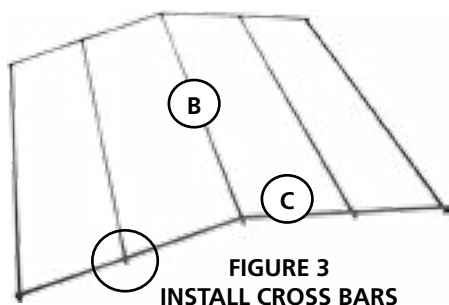

FIGURE 3
4. Locate the two (2) side frame tubes (C) and five (5) cross bars (B) (refer to Figure 2&3). Secure the cross bars onto the side frame tubes using two (2) 6mm x 1-5/8" bolts and two (2) 6mm locknuts per cross bar as shown in Figure 3. Repeat this STEP for the four (4) remaining cross bars. Note: The cross bars are installed on the underside of the side frame tubes.